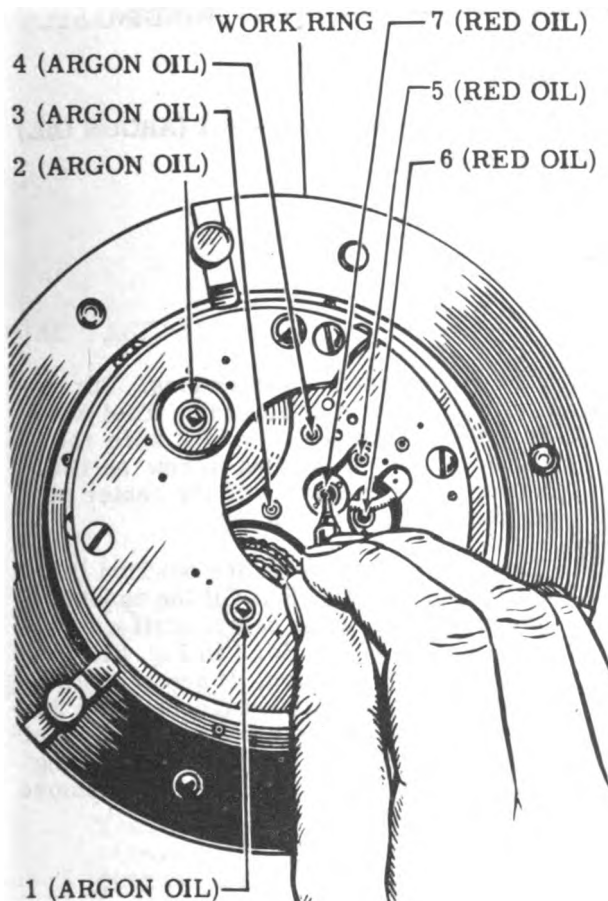

Figure 78
46. Using argon oil, oil the fusee upper bushing (arrow No. 1), the barrel upper bushing (arrow No. 2), the center upper bushing (arrow No. 3) and the third upper bushing (arrow No. 4). See Fig. 78.
47. Using red oil, oil the fourth upper jewel (arrow No. 5), the escape lower jewel (arrow No. 6) and the balance lower jewel (arrow No. 7). See Fig. 78.